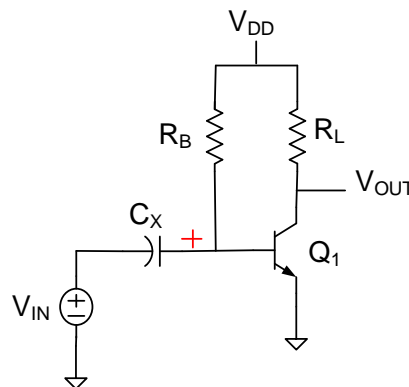

Figure 2: Capacitor-Coupled Common-Emitter Amplifier
- Measure  $\beta$  of the transistor using the circuit of Fig. 2. In this measurement be sure that the transistor  $Q_1$  is operation in the forward active region. When operating in the forward active region,  $I_C = \beta I_B$  so  $\beta$  can be obtained by taking the ratio of the  $I_C$  to  $I_B$ . (A convenient value for the supply voltages is  $V_{DD}=12V$ ). Since the measurements are to be made with the oscilloscope, the currents can be obtained by taking the difference of the two voltages across the appropriate resistors and dividing by the value of the resistor.